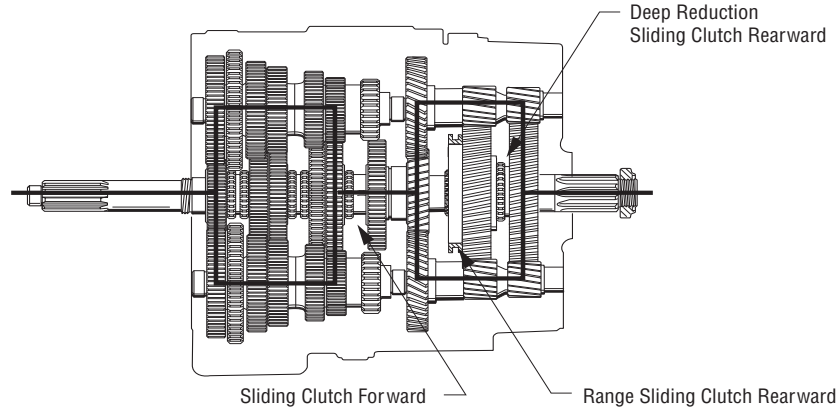

Figure 2-4. Front Section Power Flow
**Note:** The heavy lines in Figure 2-4 outline the power flow description below. For help in understanding the transmission components, refer to Figure 2-3.